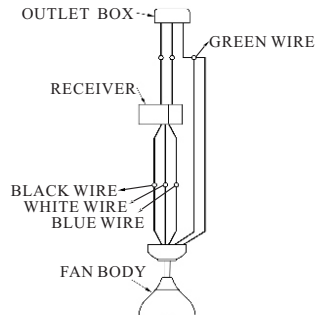

FIG.6
2. Connect the white wire from receiver to the white wire from fan with wire nut. Connect the black wire from receiver to the black wire from fan with wire nut. Connect the blue wire from receiver to the blue wire from fan with wire nut. Connect the green wire from ceiling, and green wire from hanger bracket with green wire from downrod ball with wire nut. (see Fig.6)